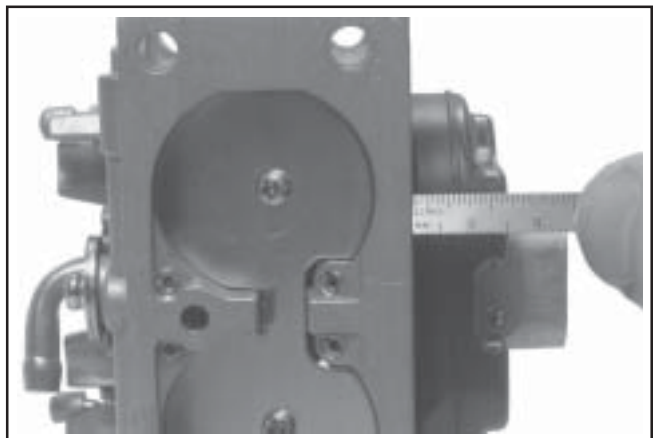

**Figure 5-19. Installing Float Assembly.**
6. Install the float and inlet needle down into the seat and carburetor body. Install the new pivot pin through the float hinge and secure with the new retaining screw. See Figure 5-19.